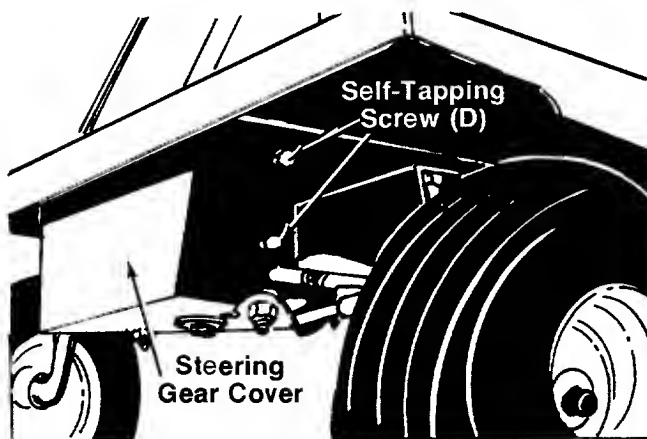

FIGURE 9.
13. Install the **steering gear cover (AD)** as shown in figure 9, to cover the underside of the steering mechanism. Secure with two **self-tapping screws (D)** on each side of the cover. Do not completely tighten any of these screws until all four of them are positioned correctly.